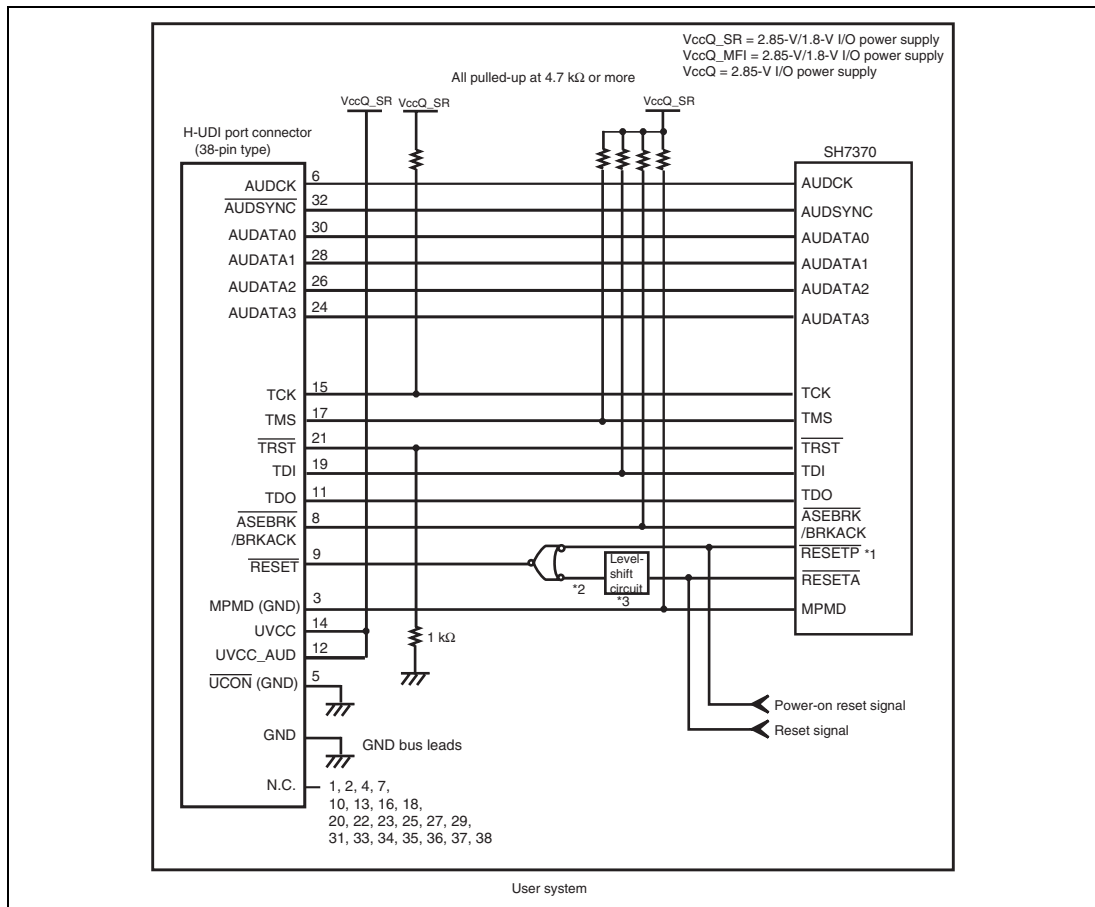

Figure 1.7 Recommended Circuit for Connection between the H-UDI Port Connector and MPU when the Emulator is in Use (38-Pin Type)
6. Connect /RESETP and /RESETA to the user system if required, as shown in figure 1.7.
Figure 1.7 shows a recommended circuit for connection between the H-UDI and AUD port connectors (38 pins) and the MPU when the emulator is in use.
- (1) When the emulator is used: MPMD = 0
- (2) When the emulator is not used: MPMD = 1Figure 1.7 shows an example of circuits that allow the MPMD pin to be GND (0) whenever the emulator is connected by using the user system interface cable. When the MPMD pin is changed by switches, etc., ground pin 3. Do not connect this pin to the MPMD pin.
7. The resistance value shown in figure 1.7 is for reference.
When the circuit is connected as shown in figure 1.7, the switches of the emulator are set as SW2 = 1 and SW3 = 1. For details, refer to section 3.8, Setting the DIP Switches, in the SuperH™ Family E10A-USB Emulator User's Manual.